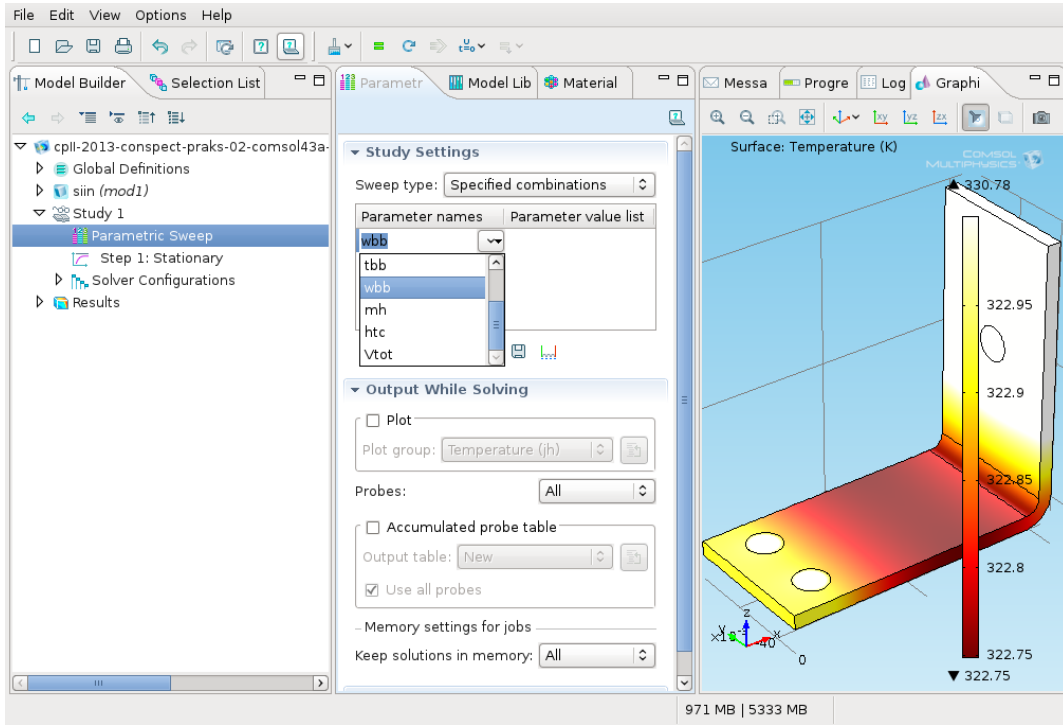

Figure 28: Adding the parametric sweep.
- 1 Open the file *busbar-solved.mph*. **Model Builder** → **Study 1: right button** → **Parametric Sweep** (Fig. 28).